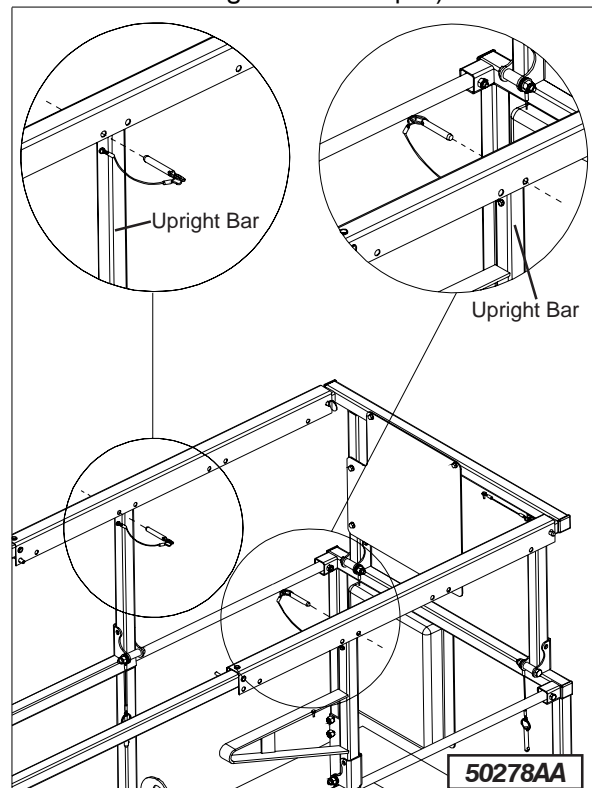

Figure 2-11. variable position manual extension deck
- Reinsert the locking pins. Insert the pin on one side of the machine in front of the upright bar and the pin on the other side of the machine behind the upright bar to prevent accidental movement, in either direction, of the manual extension platform during travel or transport (Refer to “figure 2-11” for a configuration example).